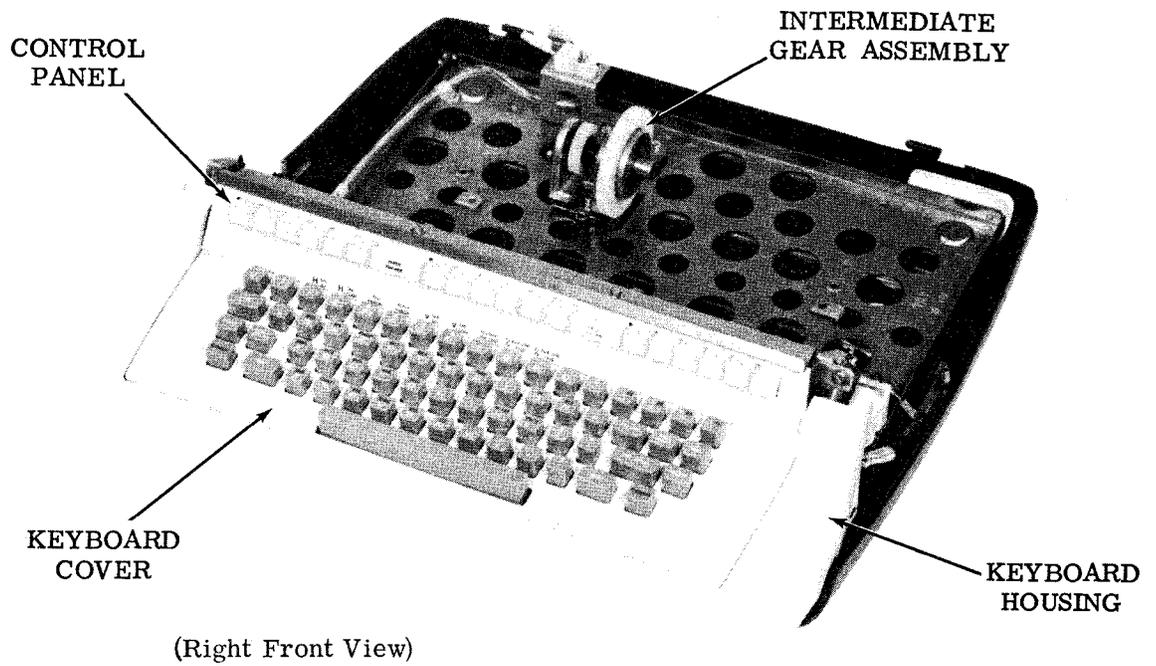

Figure 2 - 37 Keyboard Unit
2.01 To remove the control panel, remove the TP151630 screws from left and right sides and lift the panel out (Figures 2 and 4).
2.03 To remove the TP324035 keyboard housing, remove the two TP151631 screws (one on each side) and slide the keyboard housing forward (Figures 2 and 4).
2.06 To remove the keyboard from the base assembly, proceed as follows (Figures 2 to 5):